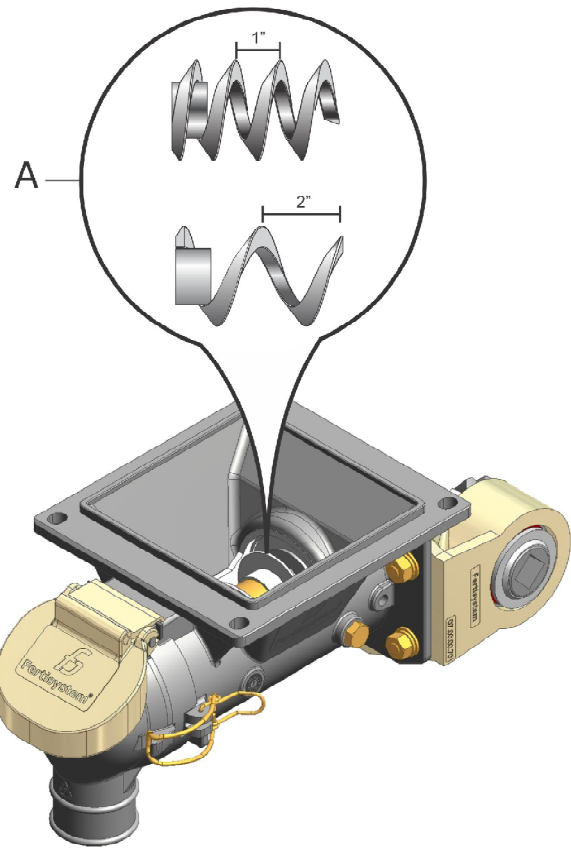
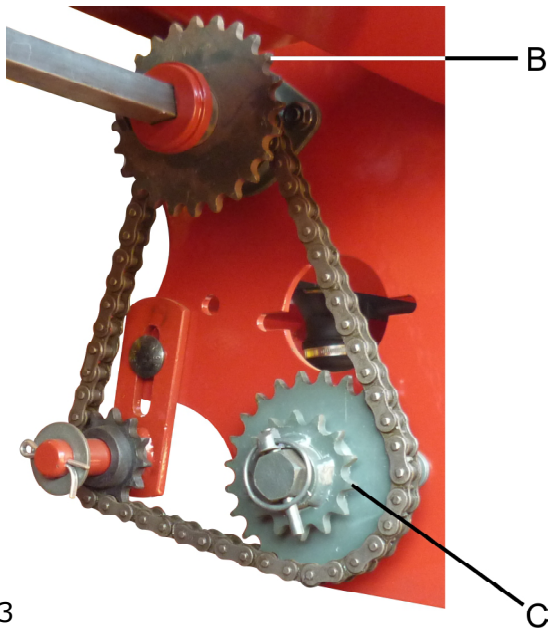
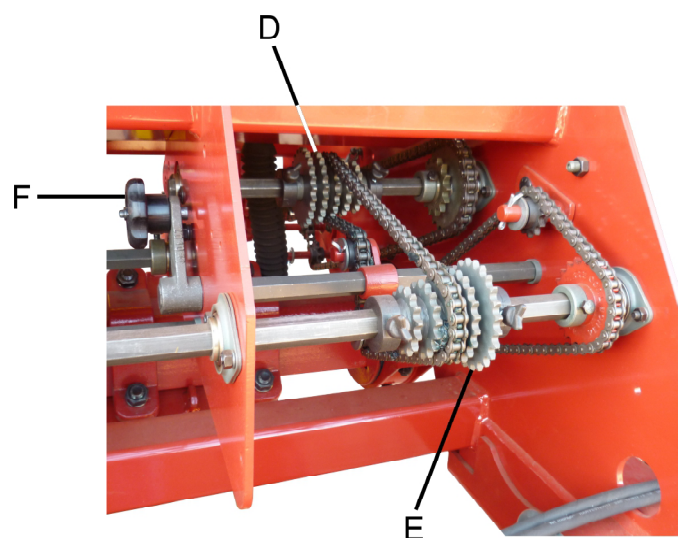

fig. 12
fig. 13
fig. 14
Adjusting the amount of fertilizer in Kg/ha is performed through the endless thread (A) (fig. 12) and the exchange of drive (B) and driven sprockets (C) (fig. 13), driven (D) and drive "sprocket set" (E) (fig. 14), being that the fertilizer is moved through the endless threads (A) (fig. 12).
To adjust the "sprockets set" it is need to let loose the stretcher (F) (fig. 14).
Verify if the flow rate obtained is really desired. If necessary change the transmission ratio through the exchange of sprockets Z14/24 (B/C) (fig. 13).